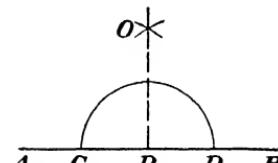

Fig. 121.
- a. With P as center, using any convenient radius, draw an arc cutting AB at C and D (see Fig. 121).